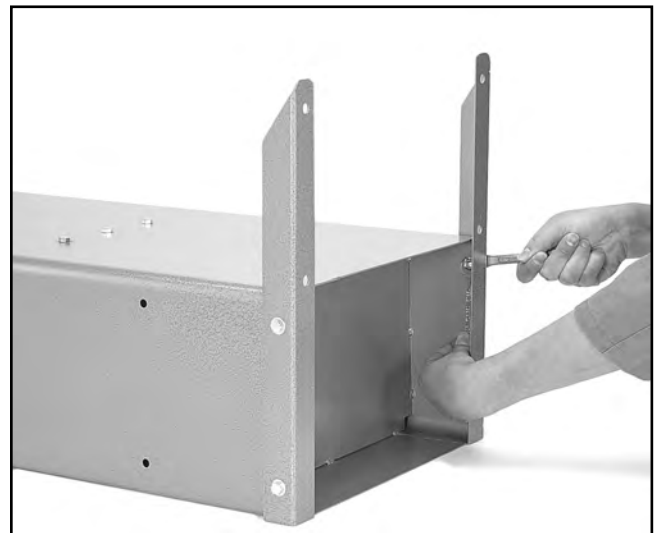

Figure 4. Attaching base brackets to stand.
1. Attach the two base brackets to the base of the cabinet using four (4) $\frac{5}{16}$ " - 18 x $\frac{3}{4}$ " bolts and nuts. Use two (2) washers for each bolt, one under the head of the bolt, one next to the nut. These brackets are used when the lathe is going to be bolted to the floor or other type of support structure. **See Figure 4.**